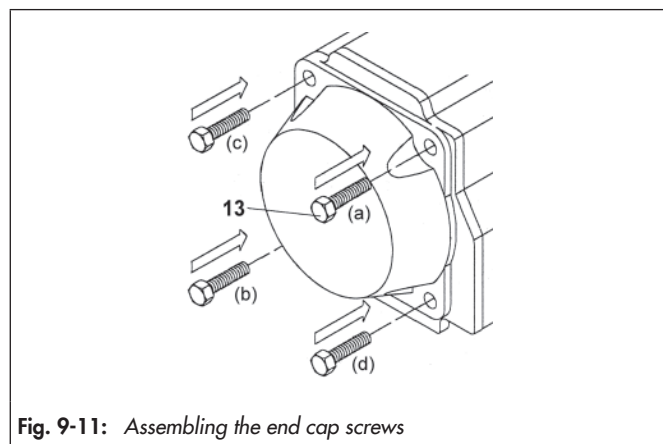

Fig. 9-11: Assembling the end cap screws
- ⇒ Observe the installation sequence, see Fig. 9-11.
- ⇒ Assemble the end cap on the housing (29).
- ⇒ Complete tightening the screws (13), tighten each screw in the indicated order one rotation each, see Fig. 9-11.
- ⇒ Insert both adjusting screws (2), lock nuts (4), washers (3) and seals (11).
- ⇒ Screw the adjusting screws (2) into the housing, observe the end position adjustment.
- ⇒ Place the position indicator (19) on the shaft and pay attention to the correct position.